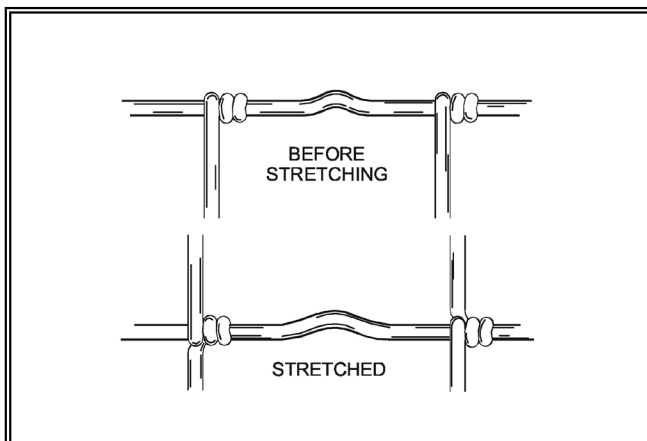

Figure 5 Tensioning Woven Wire
- Tension woven wire to remove only 1/3 to 1/2 of the tension curve from the line wires, as shown in Figure 5 below.